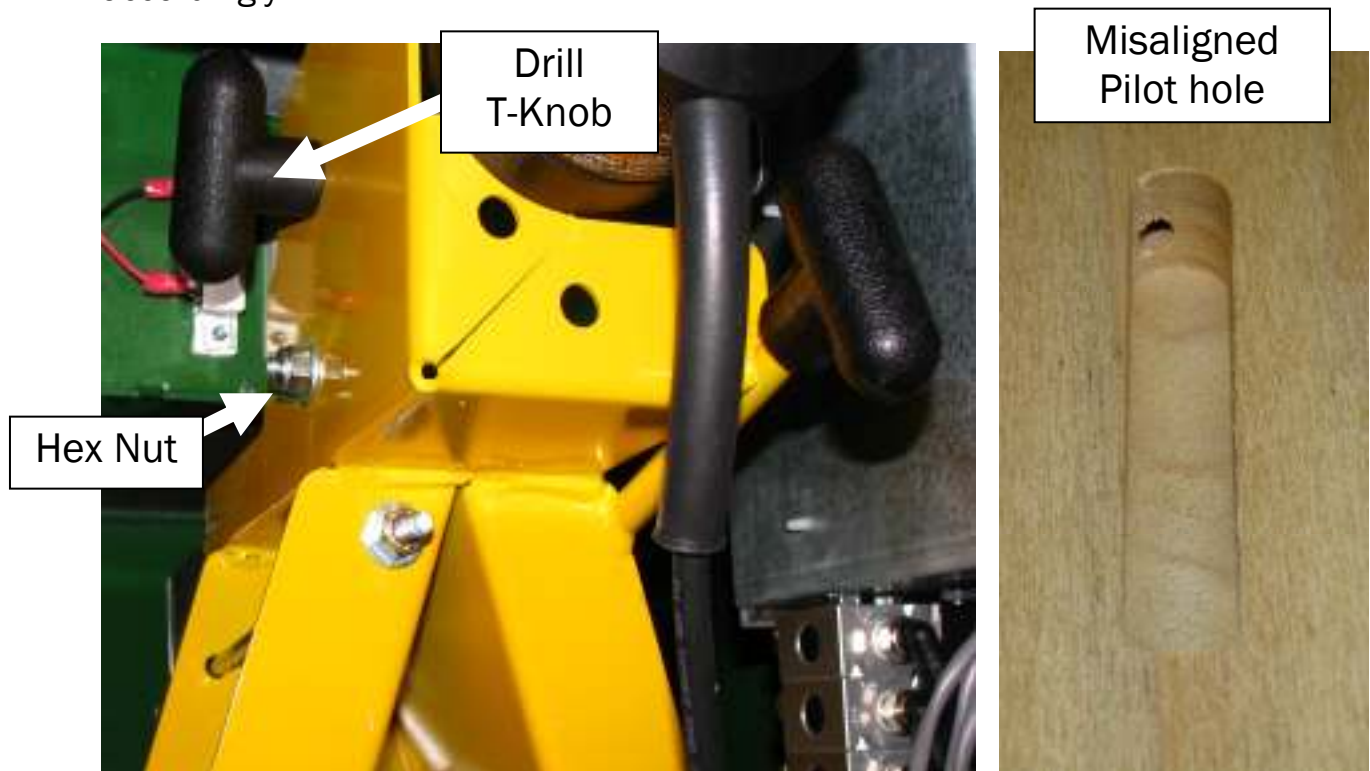

Figure 27
1. From the rear door, locate the hex nut immediately below the Drill T-Knob on the upper left side of the Motor Carriage. **See fig. 27.**